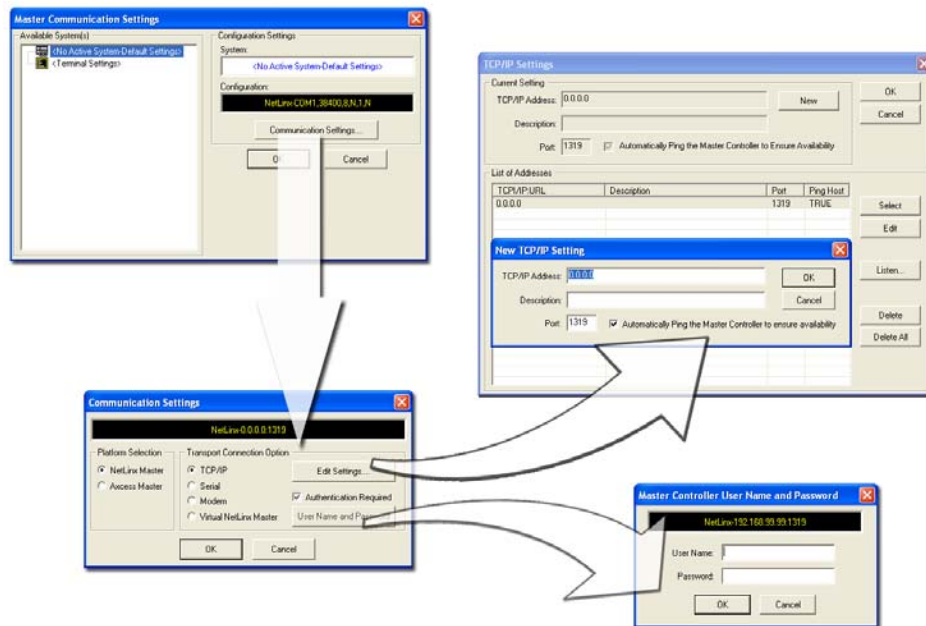

FIG. 51 Assigning Master Communication Settings and TCP/IP Settings
3. Select **Settings > Master Communication Settings** from the Main menu to open the Master Communication Settings dialog (FIG. 51).
7. Click the **Edit Settings** button (on the Communications Settings dialog) to open the TCP/IP Settings dialog (FIG. 51). This dialog contains a series of previously entered IP Address/URLs and their associated names, all of which are stored within Studio and are user-editable.